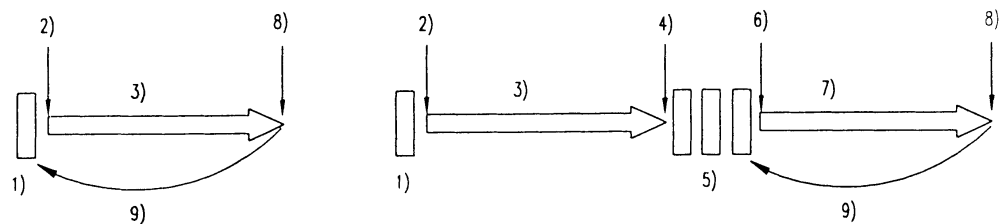

Figure13
- Figure 13 shows the relationship between the play and back cue operations.